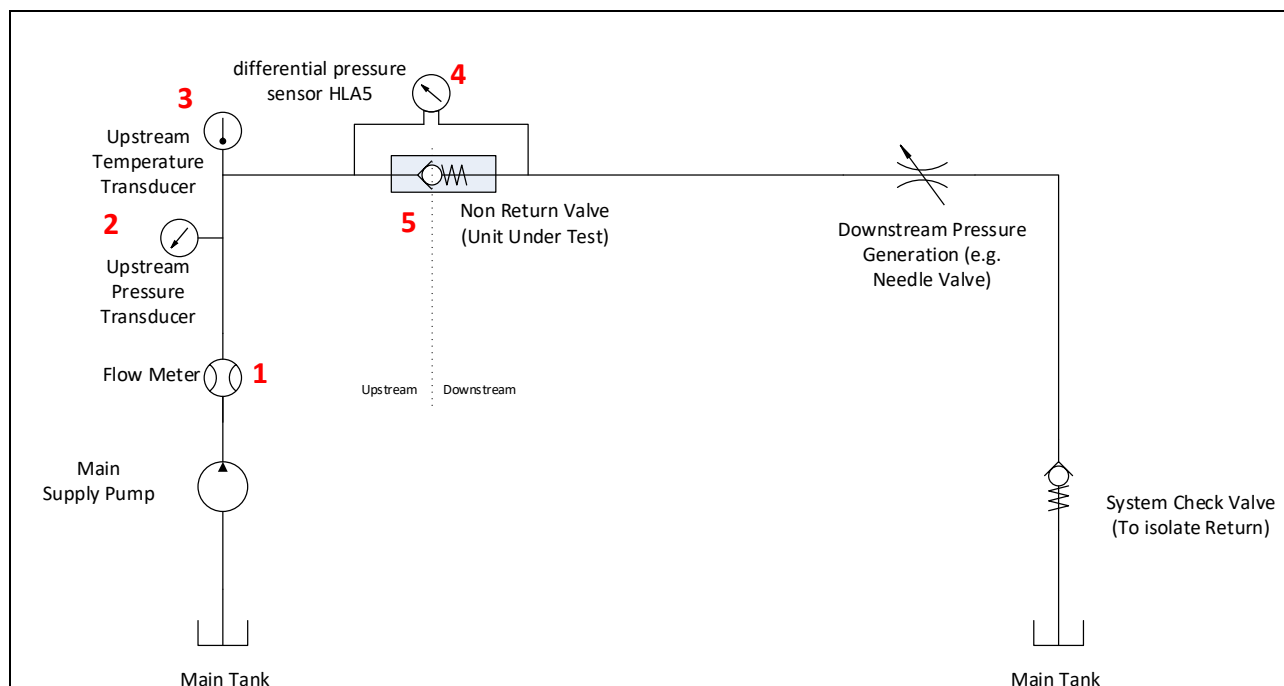

Figure 7: test setup Test Title 1 - 3(4)
(4) Pressure Drop at Rated Flow
- Test set-up in accordance to Figure 7.